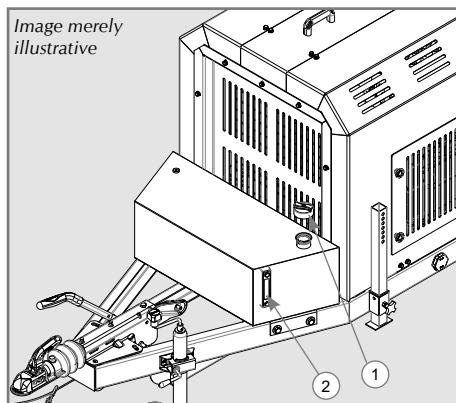

Figure 9
- Open the lid (1) using the key and check the amount through the viewfinder (2), as per Figure 9. Fuel only with standard diesel. After fueling, close the lid and check if there is no fuel leak or spillage before starting the engine. Capacity: 45 liters.